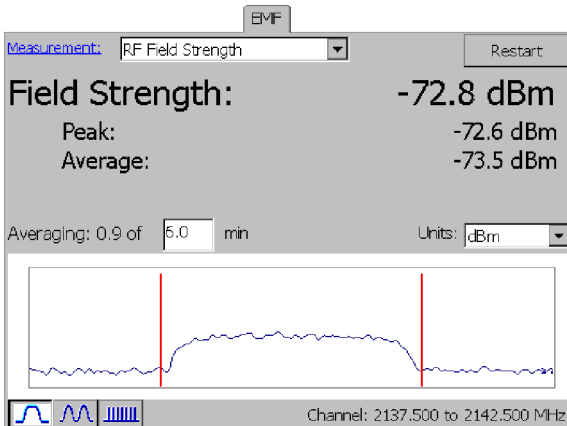

Figure 3-28: EMF RF Field Strength.
7. Select the EMF measurement type in the **Measurement** field (**RF Field Strength** or **WCDMA Field Strength**). See Figure 3-28. The display changes depending on the selected measurement type. The following sections describe each measurement field.